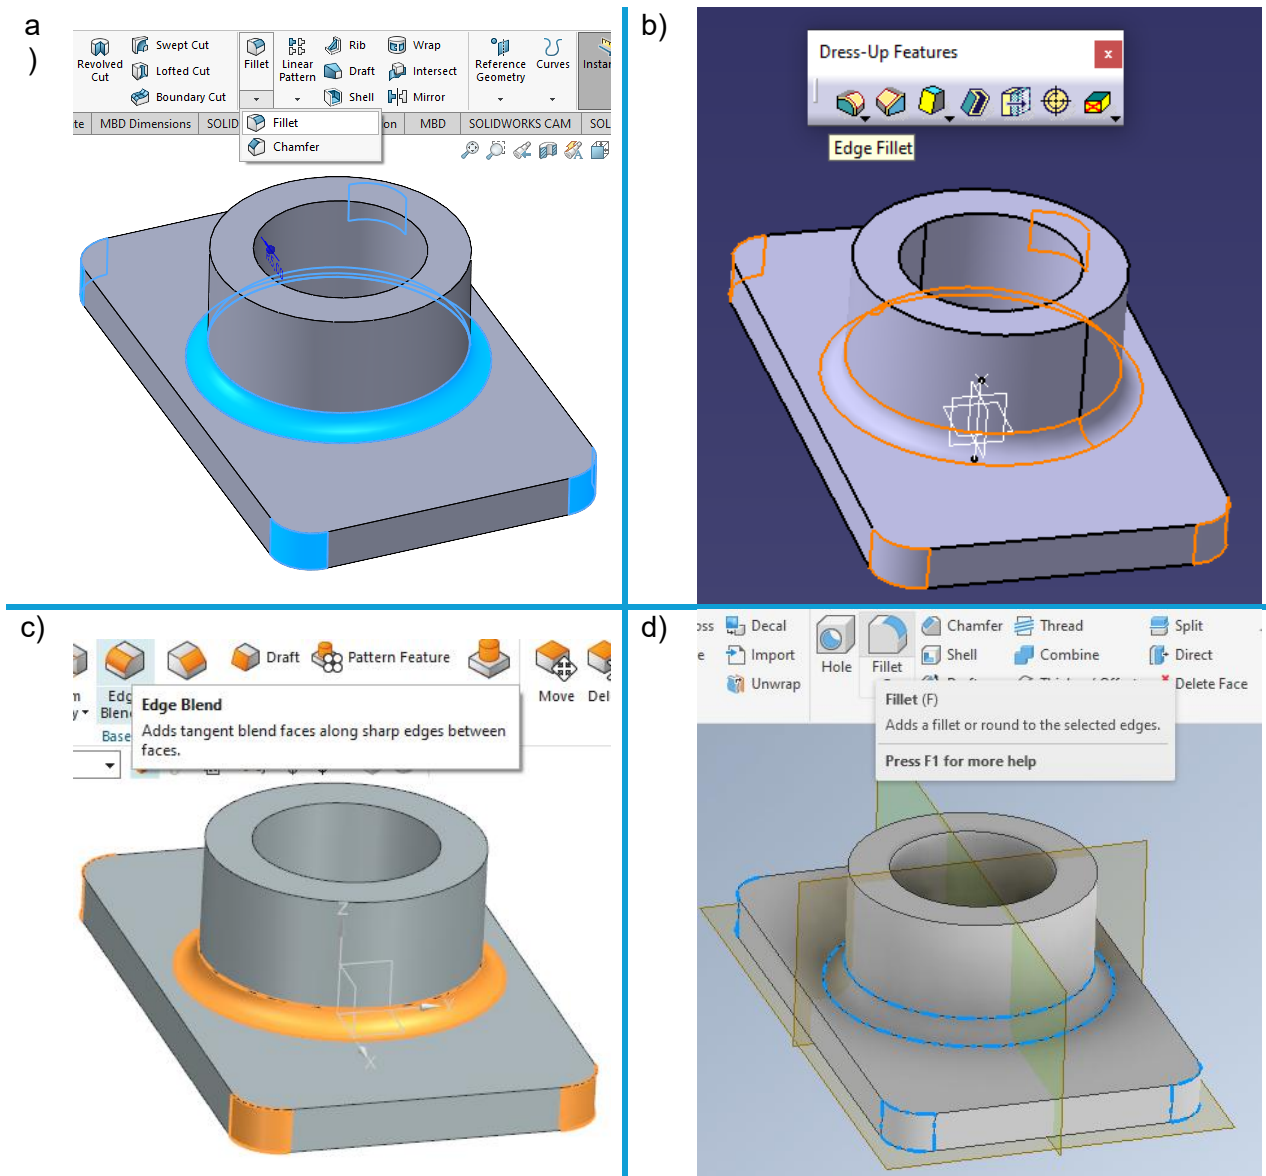

Fig. 8. Fillet feature of the part in: a) SolidWorks, b) Catia, c) Siemens NX, d) Inventor
- Show examples similar to those presented in Fig. 8.